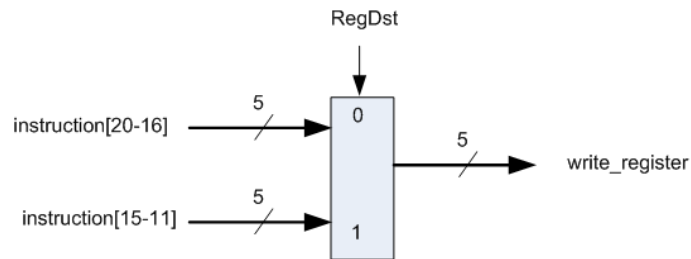

Figure 8-3: Destination register selector multiplexer
--- determine the address of the register to be written , use Figure 8-3 to implement